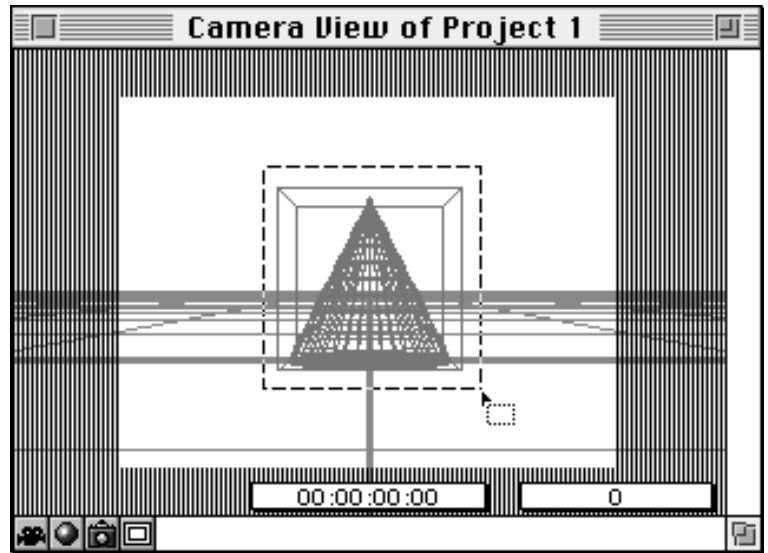

Figure 6.4 Camera View window with preview frame selection
2. To complete the operation, drag a rectangle around the area of the Camera view you want to preview, as shown in Figure 6.4.